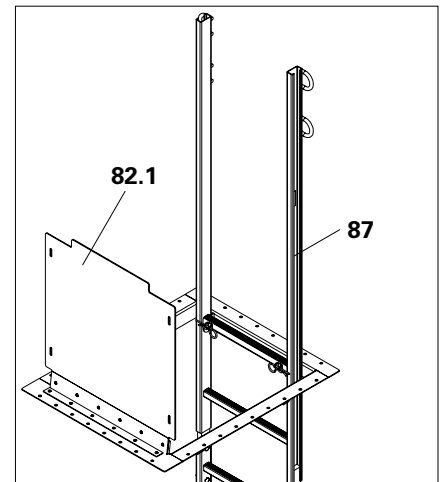

Fig. B5.12
2. Lift pre-assembled ladders (85 + 87) with the crane into the hatch (82) and lower so that the top rung of the ladder lies in the U-profile of the hatch. (Fig. B5.12)